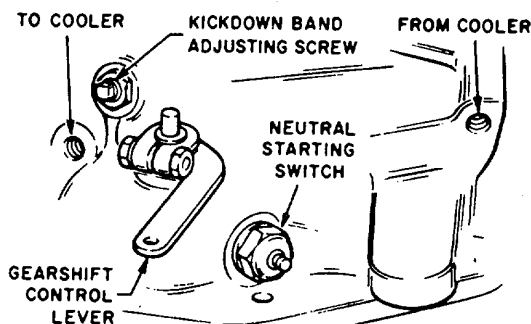

Figure 5-8. Location of Gearshift Control Lever
12. Disconnect the gear shift control cable from the gearshift control lever on the transmission. (See figure 5-8).